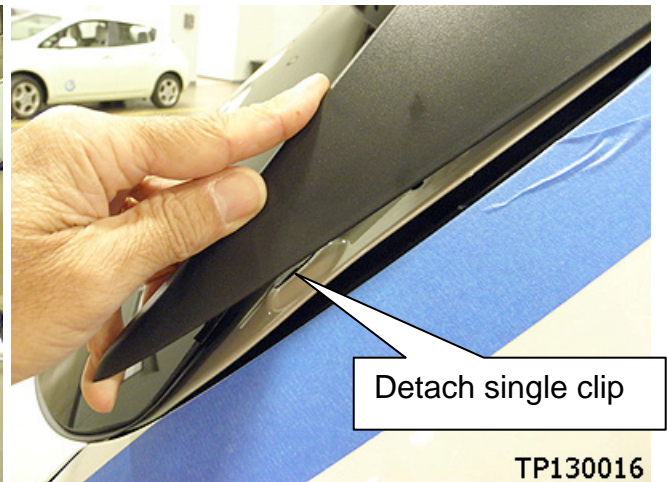

Figure 4
5. Using a suitable plastic trim tool, gently remove the spoiler side trim clips (Figure 4) on both the LH and RH sides of the spoiler.